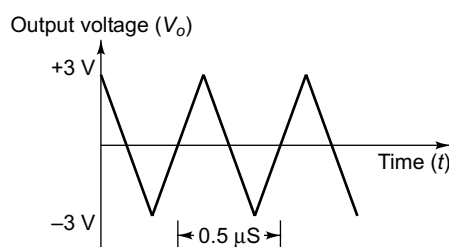

Fig. 4.36
24. The output voltage of an operational amplifier is shown in Fig. 4.36. When input voltage is a square wave of 6 V peak to peak amplitude with frequency 1 MHz. What is the slew rate of operational amplifier?